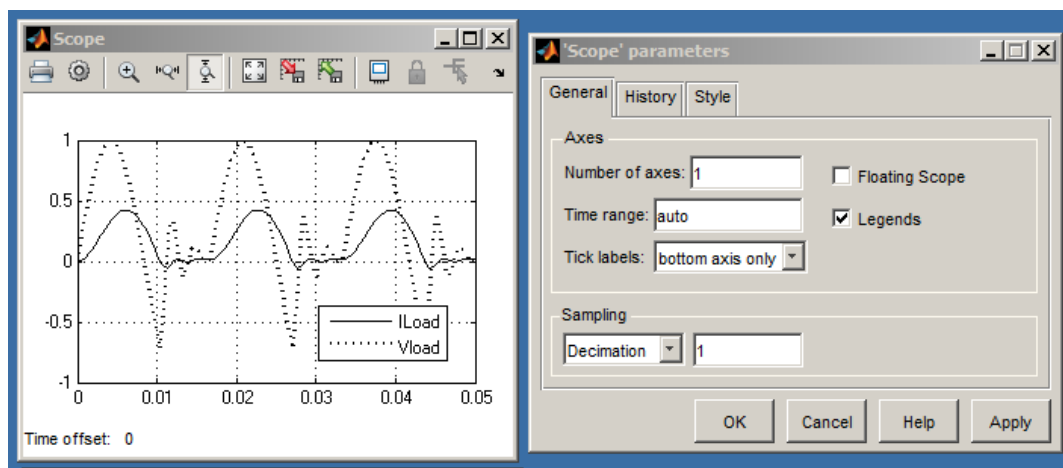
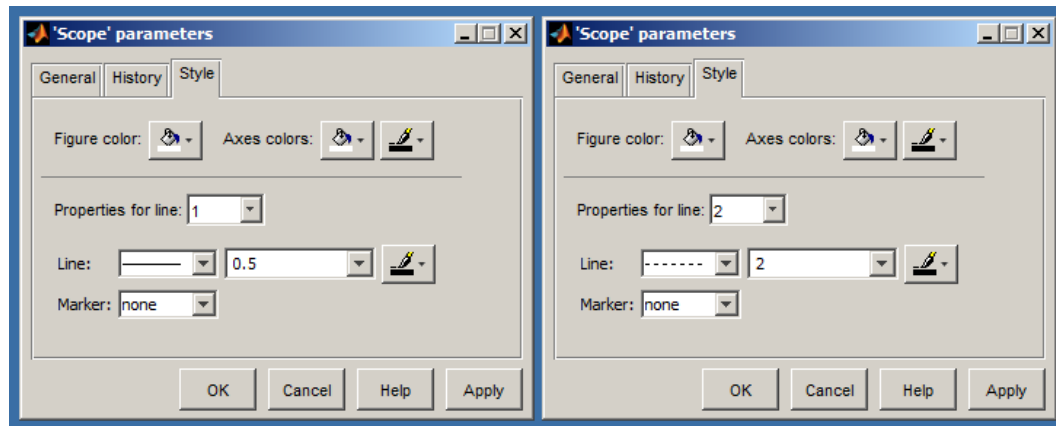

Figure 10. The output waveforms of the scope block with legends enabled.
Figure11. The properties for lines 1 and 2 of the Scope block.
6. **Scope.** This configuration of a Scope block will produce 1 plot for 2 different signal traces as shown in Fig. 10. Click on the component and in the dialogue box that opens, set the following parameters: In the tool bar at the top click on the second icon. The Parameters window will open with the General pane active. Set number of axes = 1, this will produce two separate curves in one plot. This scope has 2 signals connected through a MUX block. Set Time Range = auto or a number larger than the simulation time. Leave the Sampling field at the default: Decimation, 1. Do not use the Floating Scope option since the Scope1 is connected to the circuit by 2 wires. The Legends command will add a default label to each curve trace. The **History** section is set to **Save Data to WorkSpace**. The **Structure** selection is set to **Structure With Time**. The **Style** section must be modified so that the curves and the plots will appear as black traces on a white background and each trace has a different type of line. This is shown in Fig. 11. Set **Figure Color** so that the color white appears below the bucket. Set the **Axes Colors** fill bucket to be white and set the paintbrush to the color black. Since there are two curves on the same set of axes plots, the Properties for both lines 1 and 2 must be distinct. Thus,